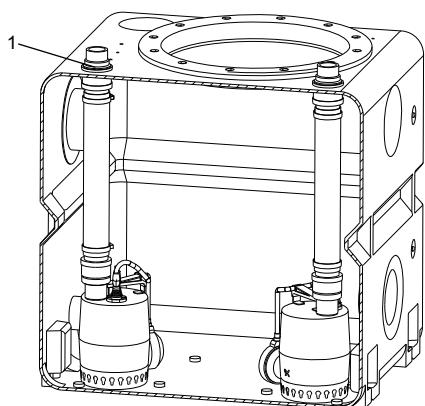

Fig. 11 Example with Unilift KP pumps
1. Assemble the connecting pipe outside the tank, except for the nut. See pos. 1 in fig. 11.